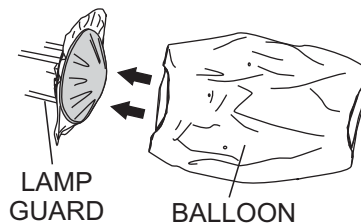

Figure 25. Removing the Balloon
3. Slide the new balloon over the top of the lamp guard as shown in Figure 25. Zip up the zipper at the bottom and top of the balloon.